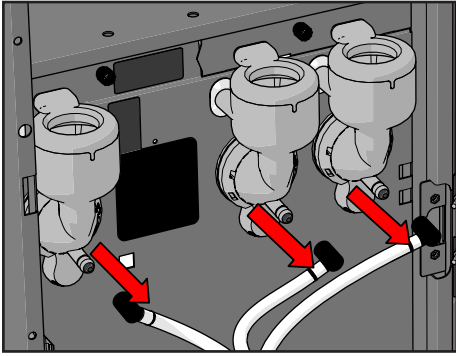

Figure 38.
8. Disconnect the outlet hose from the mixers (see Figure 38).